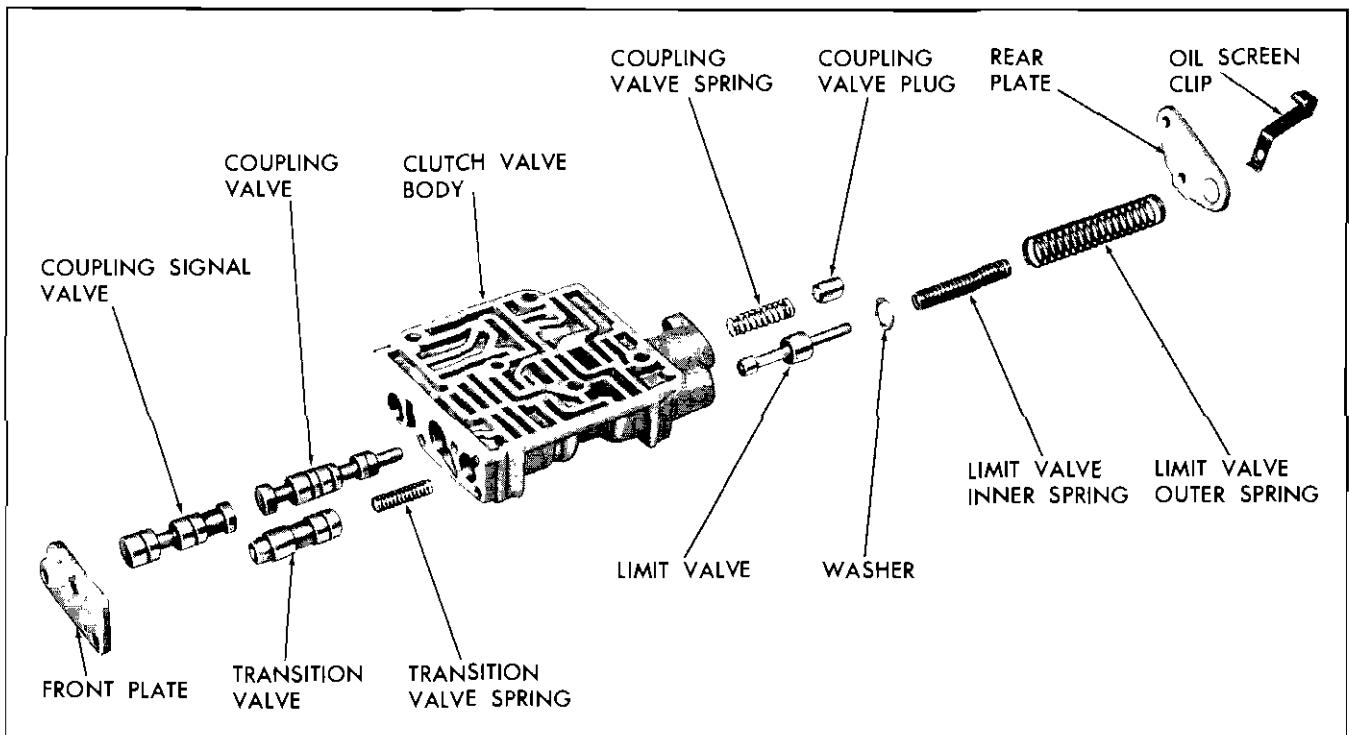

Fig. 136 Clutch Valve Parts--Exploded
body front plate and remove plate (Fig. 136).
1. Install limit valve, stem end out (Fig. 136).